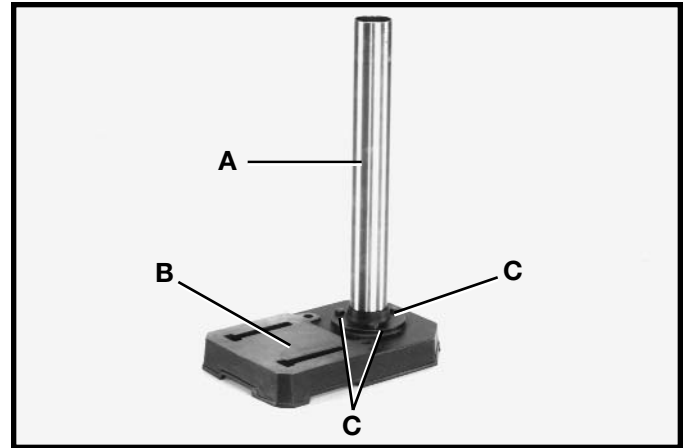

Fig. 4
1. Assemble the column (A) Fig. 4, to drill press base (B) as shown, using the three M8 x 20mm hex head cap screws (C).